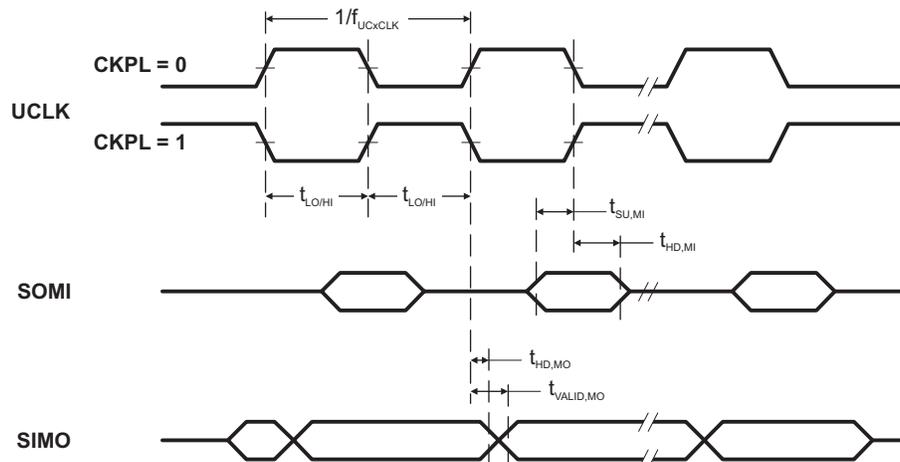

Figure 11. SPI Master Mode, CKPH = 0
(see Figure 11 and )
- (1)  $f_{UCxCLK} = 1/2t_{LO/HI}$  with  $t_{LO/HI} \geq \max(t_{VALID,MO}(USCI) + t_{SU,SI}(Slave), t_{SU,MI}(USCI) + t_{VALID,SO}(Slave))$ . For the slave's parameters  $t_{SU,SI}(Slave)$  and  $t_{VALID,SO}(Slave)$ , see the SPI parameters of the attached slave.
- (2) Specifies the time to drive the next valid data to the SIMO output after the output changing UCLK clock edge. See the timing diagrams in Figure 11 and .
- (3) Specifies how long data on the SIMO output is valid after the output changing UCLK clock edge. Negative values indicate that the data on the SIMO output can become invalid before the output changing clock edge observed on UCLK. See the timing diagrams in Figure 11 and .